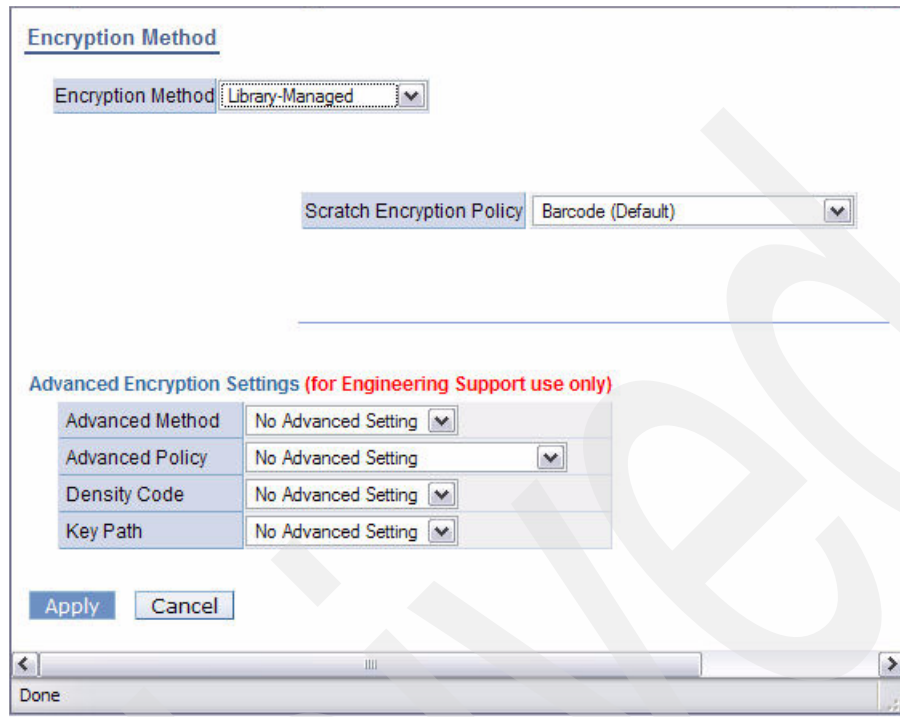

Figure 7-29 IBM UltraScalable Specialist - Encryption Method screen
- After clicking **Go**, select the option **Library-Managed** for Encryption Method and leave the other settings at their default values as shown in Figure 7-29.